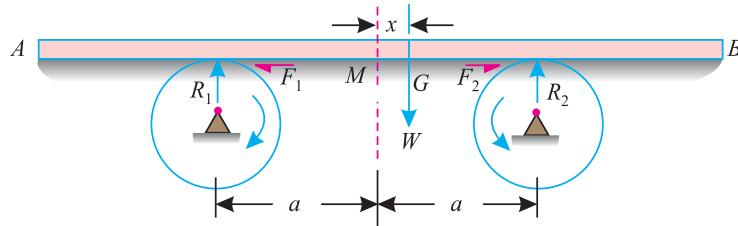

Fig. 23.6.
**Solution.** Let the weight  $W$  of the bar  $AB$  acting at its centre of gravity  $G$  be at a distance  $x$  from its mid point as  $M$  as shown in Fig. 23.6.